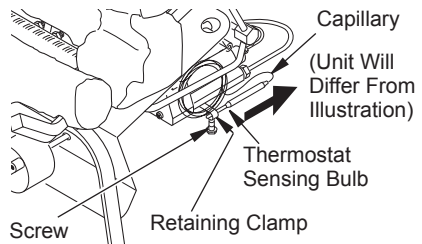

Figure 45 - Removing Thermostat Sensing Bulb
2. With 5/16" hex driver or socket, loosen the thermostat screw. Carefully slide the thermostat sensing bulb out of the retaining clamp (see Figure 45).